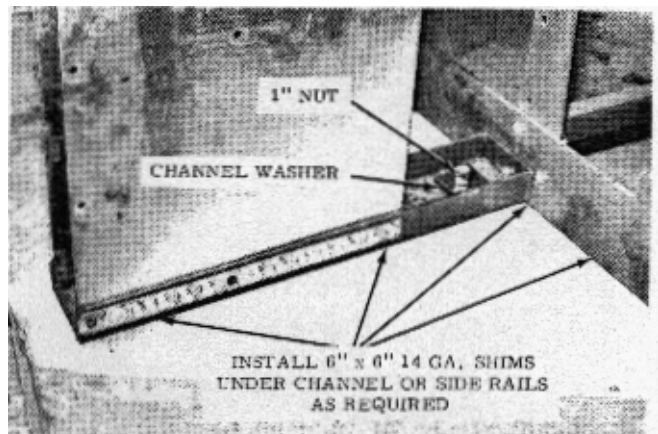

FIG. 7 . CONNECTING FOUNDATION CHANNEL BRACKETS TO FOUNDATION PEDESTALS (3 MODULE DRYER SHOWN)
A. With bottom module mounted onto the foundation pedestals, secure the foundation channel brackets by installing the two large channel washers and 1" nuts as shown in Fig. 7.
Check that all channel brackets and dryer side rails are in proper contact with pedestals. If required, the 6" x 6" 14 Ga. shims may be installed to provide level support. See Fig. 7.